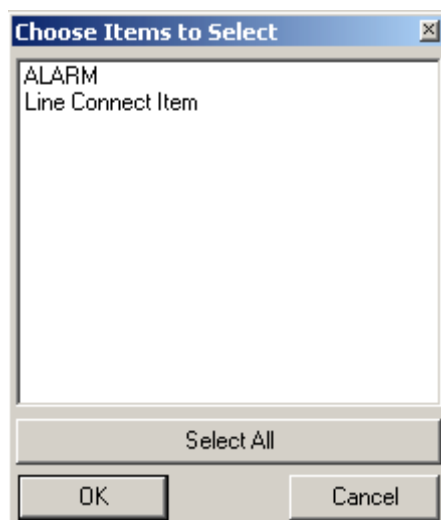

Figure 6-28 Choose Items to Select dialog
- Click an item near where it overlays another item. The Choose Items to Select dialog displays a list of items near the location point. See Figure 6-28.
- **<Shift>**-click an item near where it overlays another item. The Choose Items to Select dialog displays a list of items near the location point. See Figure 6-28.